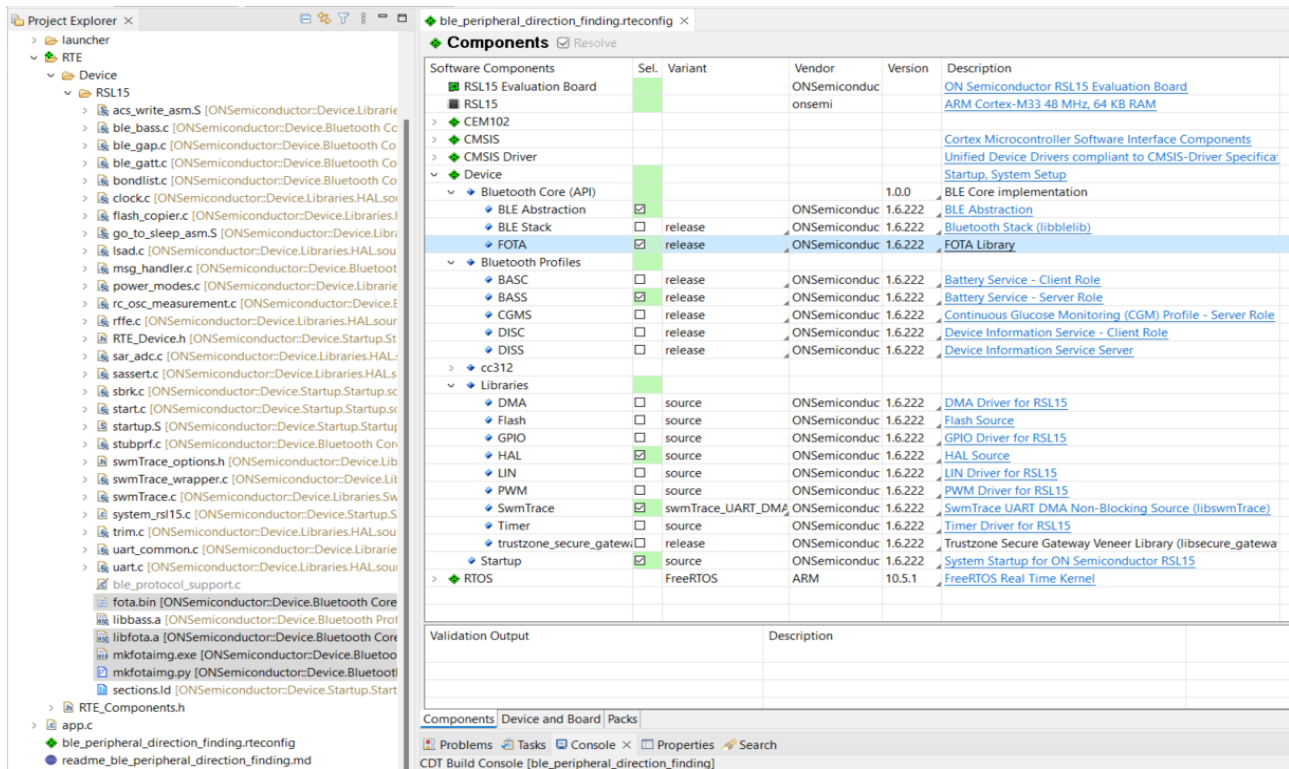

Figure 16. Adding the FOTA Software Component
2. Add the FOTA software component to your project by using the RTE Configuration Wizard (the *ble_peripheral_direction_finding.rteconfig* file). When you select the **FOTA** component and click save, *libfota.a*, *fota.bin*, *mkfotaimg.exe* and the tool *mkfotaimg.py* are copied into your project, under **RTE > Device > <device>**. In addition, you need to deselect the **BLE Stack** component as shown in the "Adding the FOTA Software Component" figure (Figure 16).
4. Modify the sample application to add random and seed initialization functions in *app.c*. These functions are initially defined in *ble_protocol_support.c*, which is excluded for the FOTA stack, as shown in the "Adding the FOTA Software Component" figure (Figure 16).